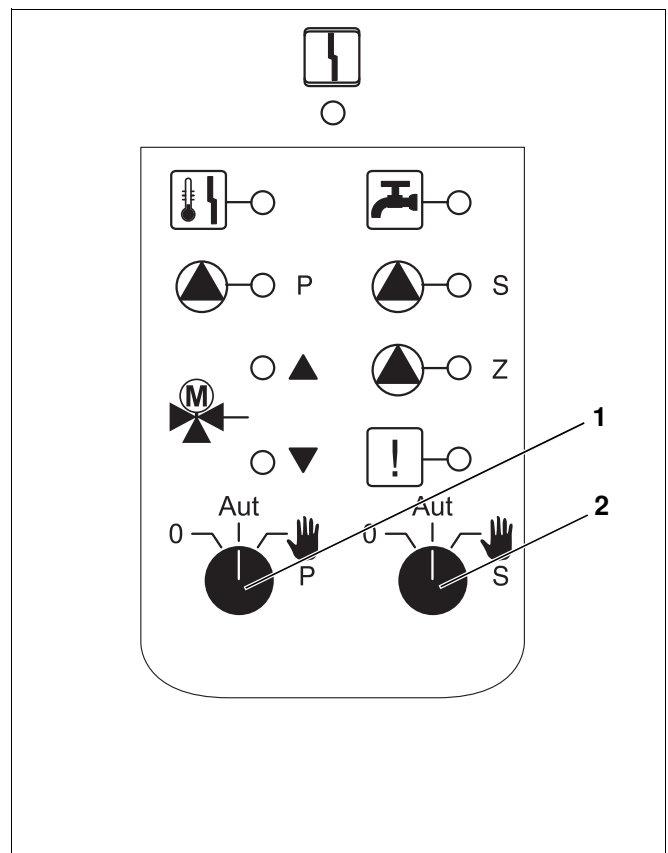

Fig. 3 FM 445 module
- Primary circuit (Fig. 3, **Item 1**) at selector switch
- Secondary circuit (Fig. 3, **Item 2**) at selector switch